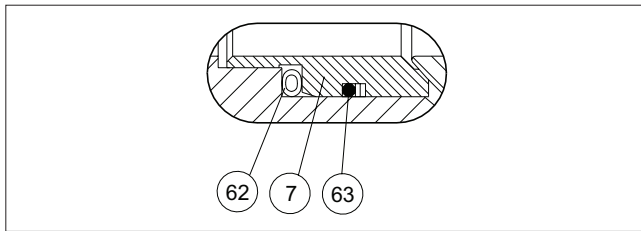

Fig. 25 S-seat
- Place the back seal (O-ring) (63) into the groove in the seat. See Figures 25, 26, and 27 .